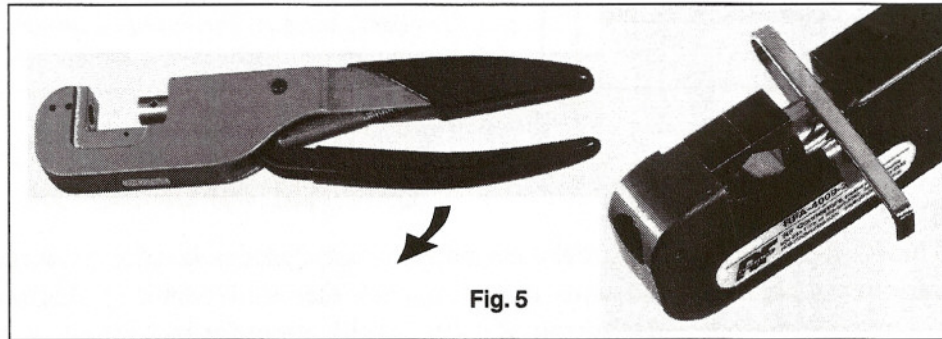

Fig. 5
2. **Remove lower die:** Close the crimp handle and slide the die removal tool between the die and tool body. Squeeze handle and release quickly with a snapping action. This will pull the die free and it can then be removed by hand. (Fig. 5)